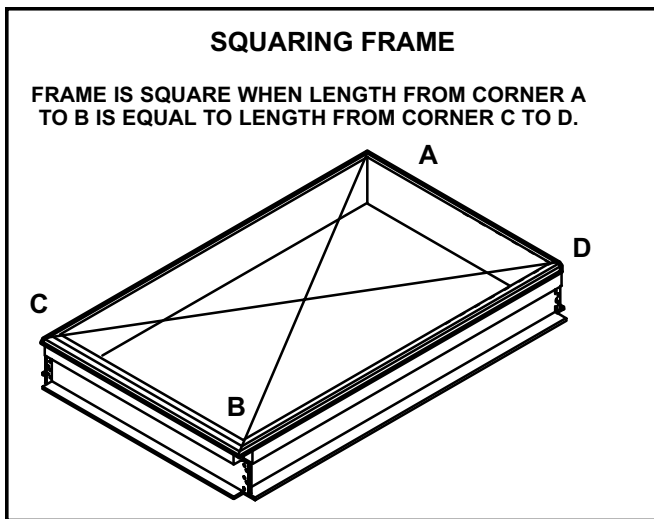

FIGURE 5
- 1- With frame situated level in desired location on roof trusses, tack weld (1) corner of frame.
- 2- Measure frame diagonally from corner to corner as shown in figure 5. These dimensions must be equal for frame to be square.